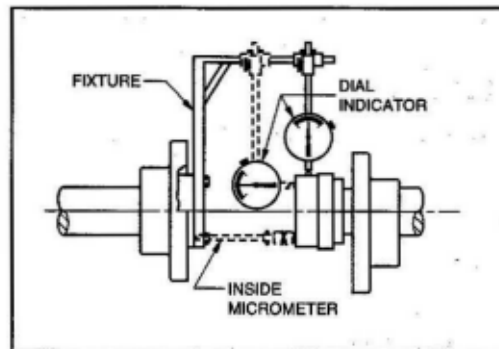

Figure 3. Testing alignment, dial indicator
- (c) The preferred test for parallel and angular alignment may be made with a dial indicator mounted as Shown in Figure 3. Proceed as follows:
- (1) Scribe the index lines on the coupling halves (as shown) or mark where the indicator point rests. (2) Set indicator dial to zero.
- (3) Slowly turn *BOTH* coupling halves so that index lines match, or indicator point is always on the mark.
- (4) Observe dial reading to determine whether pump or driver needs adjustment.
- (5) Acceptable parallel and angular alignment occurs when total indicator reading (complete turn) does not exceed limits specified by the coupling manufacturer. Refer to pages 15 - 21.